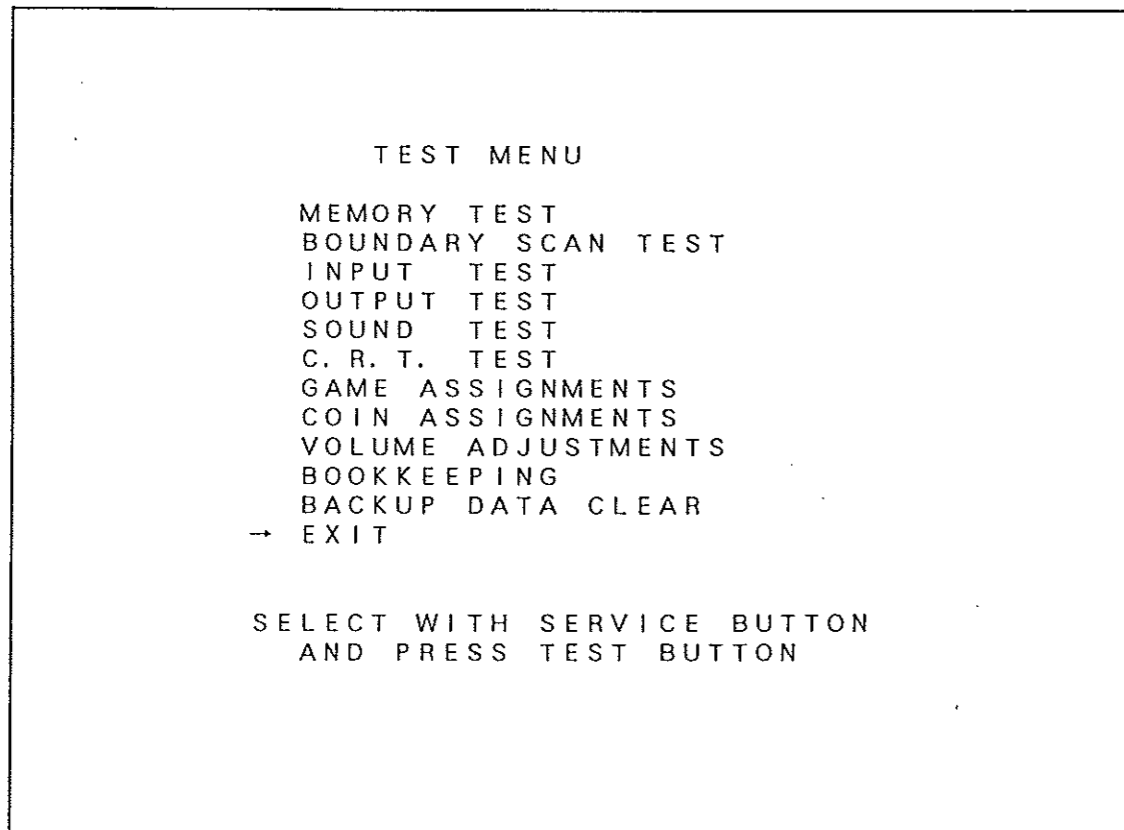

FIG. 9.2 TEST MENU
- Press the test button to have the menu displayed on the screen (FIG.9.2).